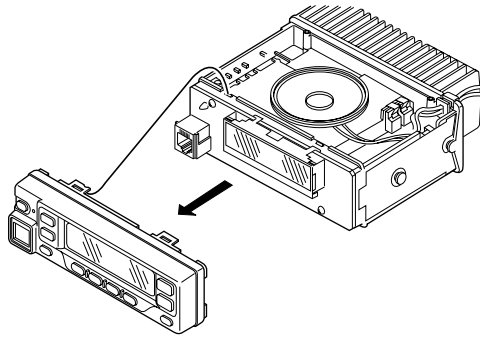

Fig. 5 / 图 5
1. Remove the control panel and the TX-RX unit (B/2) control section. (Fig. 5)
1. 取下控制面板和发射-接收(B/2)单元控制部。(图5)